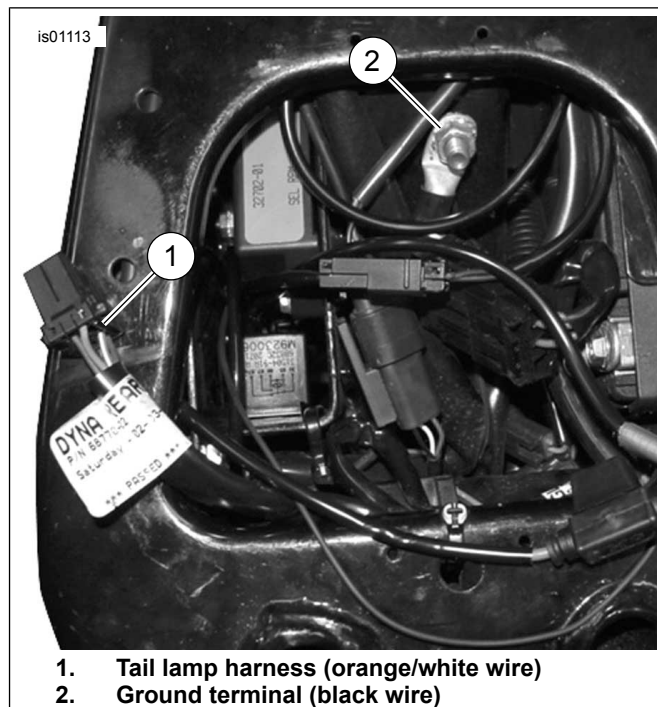

Figure 2. Power and Ground Connections (Dyna Models)
3. See Figure 2. Cut the black wire on the heated hand grip wire harness to easily reach the ground location, and crimp the ring terminal to the end of the wire per the Packard crimping tool instructions in the service manual appendix.
2. See Figure 2. Carefully slice open an area of the main harness wrap inside the side cover at an accessible point, and cut an orange/white main harness power lead.